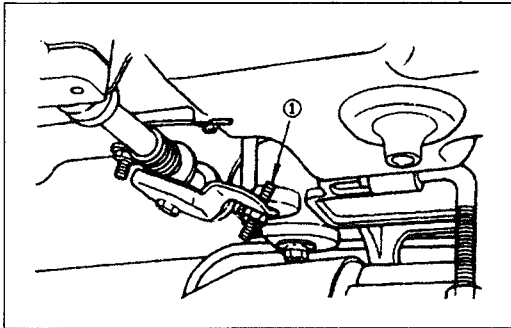

Fig.26
- 2) Insert support ① in the tapped hole in the arm.
18. ADJUSTING THE HEIGHT OF THE KNEE LIFTER (Fig.26, Fig.27)